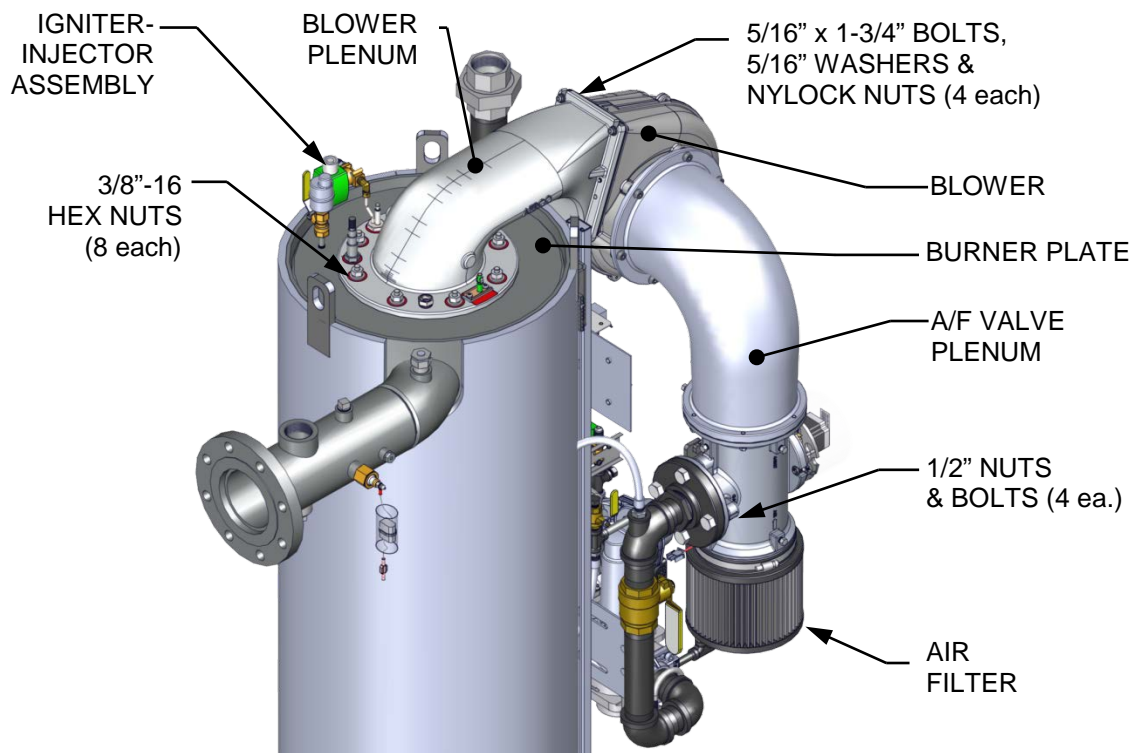
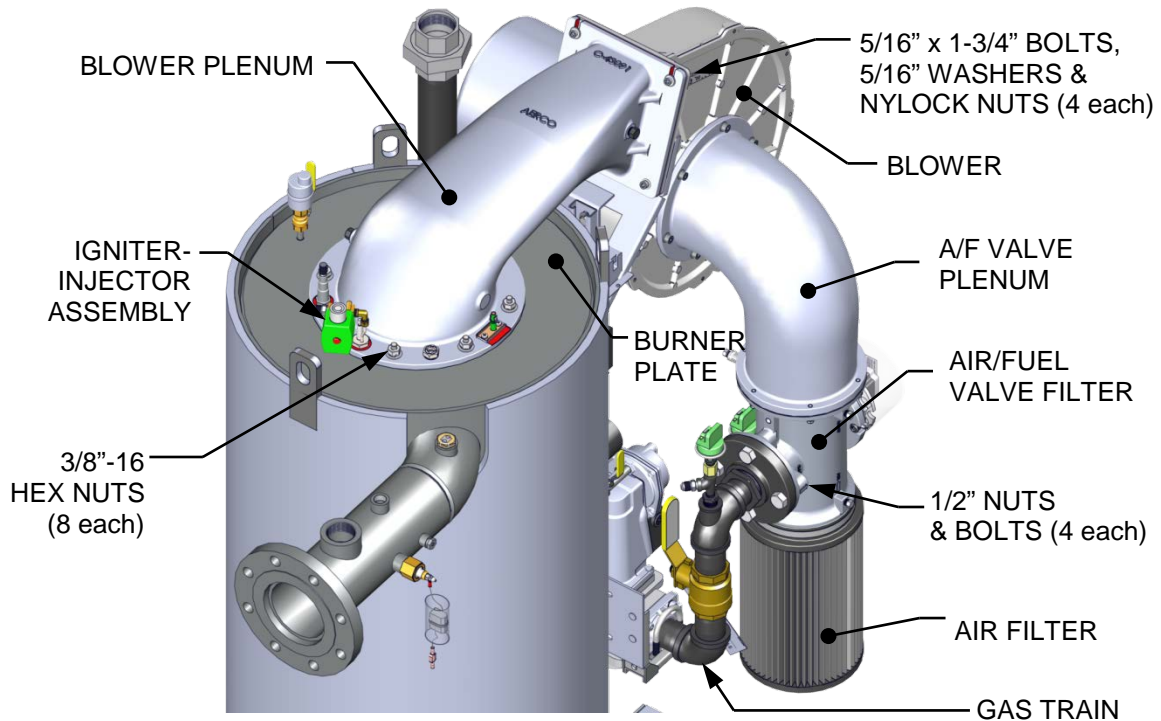

Figure 4-5a: BMK 1500/2000 Burner Assembly Mounting Details
Figure 4-5c: BMK 2500/3000 Burner Assembly Mounting Details
9. Loosen and remove the four 5/16 x 1-3/4" bolts, washers, and nuts from the blower plenum where it attaches to the blower. See Figure 4-5a & 4-5b (BMK 1500/2000) or Figures 4-5c & 4-5d (BMK 2500/3000).
11. Remove the eight (8) 3/8-16 nuts, using a 9/16" wrench, attaching the blower plenum to the burner. See Figure 4-5a & 4-5b (BMK 1500/2000) or Figures 4-5c & 4-5d (BMK 2500/3000).